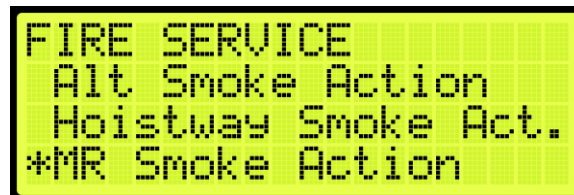

Figure 590: FIRE SERVICE Menu – MR Smoke Action
2. From the FIRE SERVICE menu, scroll and select MR Smoke Action (See Figure 590).